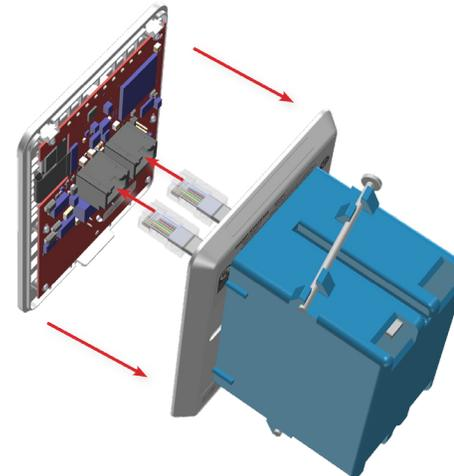

Figure 5. Connect Ethernet Cables
5. See Figure 5. Insert the Ethernet cables into the appropriate ports on the face panel.